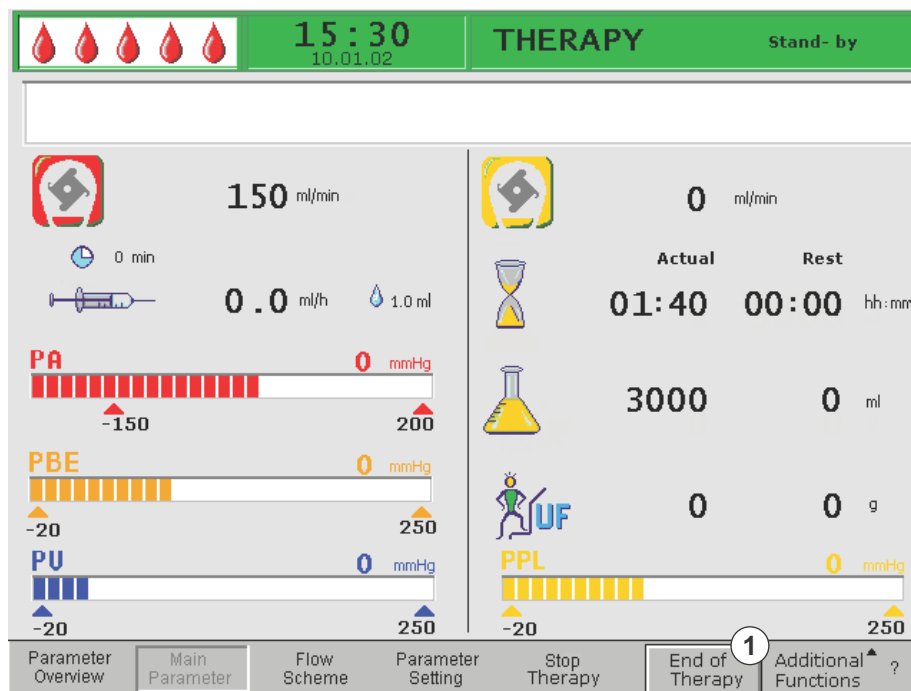

Fig. 6-5 Main Parameter screen with *End of Therapy* menu item
When the treated plasma volume is achieved, the machine switches to the stand-by mode. The blood circuit continues to circulate with the most recent blood flow rate selected. The cursor automatically points to the *End of Therapy* menu item in the menu bar (Fig. 6-5, ①).